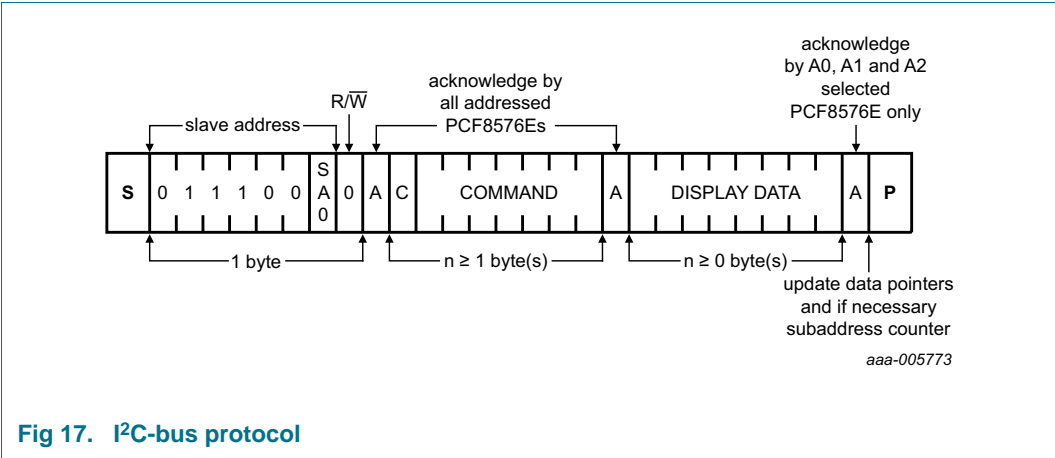

Fig 17. I2C-bus protocol
The I2C-bus protocol is shown in Figure 17. The sequence is initiated with a START condition (S) from the I2C-bus master which is followed by one of two possible PCF8576E slave addresses available. All PCF8576Es whose SA0 inputs correspond to bit 0 of the slave address respond by asserting an acknowledge in parallel. This I2C-bus transfer is ignored by all PCF8576Es whose SA0 inputs are set to the alternative level.